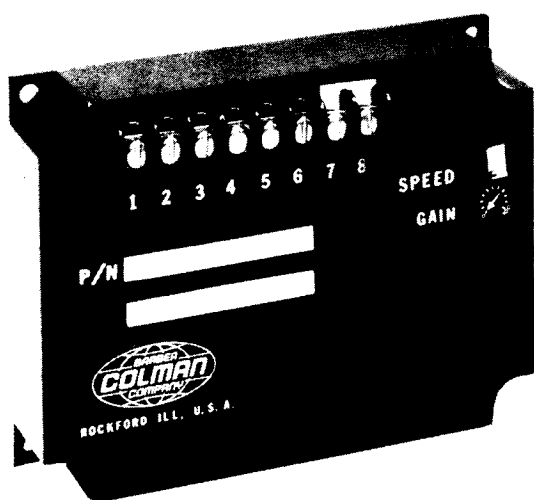

FIGURE 9-16. ELECTRONIC GOVERNOR CONTROLLER
**Controller:** This unit (Figure 9-16) contains the electronics for driving the Actuator. It has two controls (Gain and Speed) that provide governor adjustment. Voltage checks that can be made to the Controller during cranking are as follows: